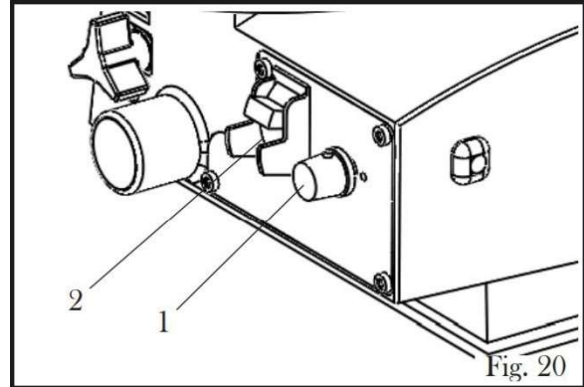

Figure 20
1. To turn the scroll saw on switch the on/off switch (2) to the on position. See figure 20. When turning the scroll saw on you should move the speed control dial (1) to the middle position.
2. Now you can adjust the blade speed to the desired setting anywhere between 50 and 1600 SPM by turning the speed control (1) dial clockwise to increase the speed or counter-clockwise to reduce the speed. See figure 20.
3. To turn the scroll saw off you must switch the on/off switch (2) to the off position. See figure 20. You can lock the scroll saw in the off position by removing the safety key from the on/off switch.